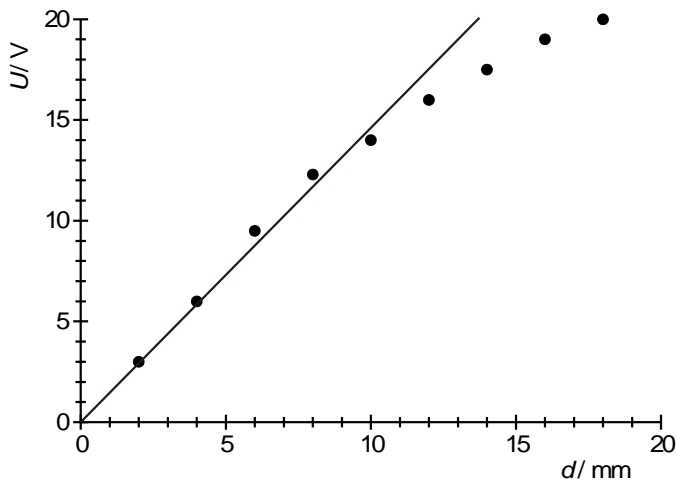

Fig. 3 Voltage  $U$  on the plate capacitor as a function of distance  $d$  between the plates
- Plot the measurements of the voltage  $U$  across the plate capacitor, as entered into Table 1, against the set plate separation values  $d$  in a graph (Fig. 3).